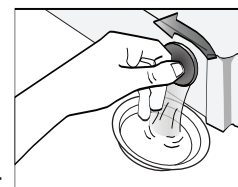

Fig 22
4. Reconnect the inlet pipe to tap. Remove the remaining water in drain pump (Fig22).